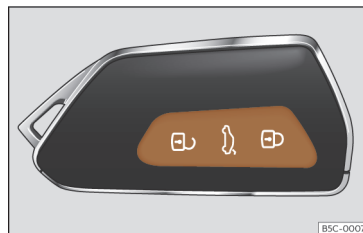

Fig. 76 Remote control key: buttons.
- Lock: press the  button >>> **Fig. 76**.